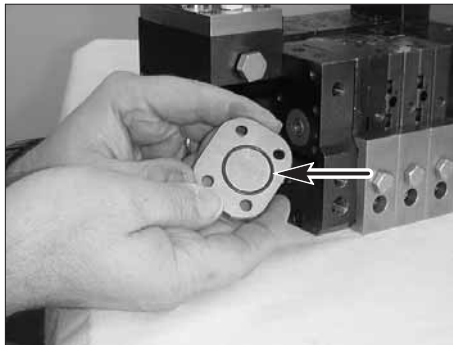

Figure 7-79 Location of the pump shaft end cap O-ring
9. See Figure 7-79. Install pump shaft end cap O-ring.